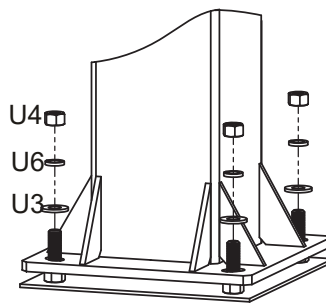
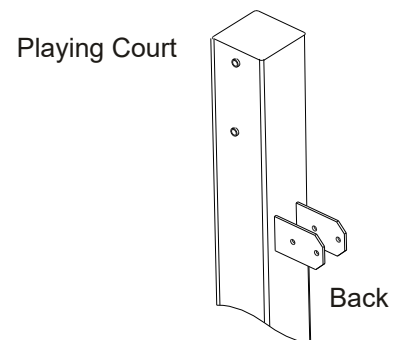

FIGURE 1B
FIGURE 1C
- B. Remove the Padding from Main Post (A). Place the Main Post (A) over the J-Bolts. Slide a 16mm Thick Washer (U3), a Lock washer 16mm (U6) and thread a 16mm Hex Nut (U4) to each J-bolt. Tighten the Nuts only a few turns onto the J-Bolts as shown in FIGURE 1B.
- C. If the Main Post (A) is not exactly vertical, adjust the 16mm J-Bolt Hex Nuts (U4) located under the Post base. Tighten all of the Hex Nuts (U4) Above Post base when Main Post (A) is vertical.
*NOTE: Face the Main Post (A) with Actuator Bracket facing away from playing court (as shown in FIGURE 1C).*